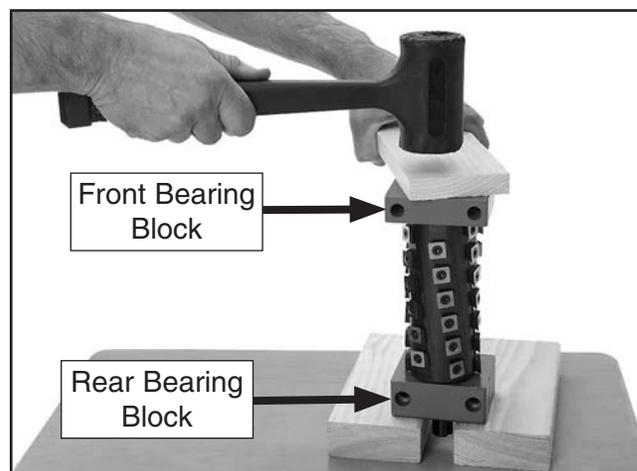

Figure 8. Example of seating rear bearing block onto spiral cutterhead (T27449 not shown).
17. Stand the cutterhead upright between the two 8" 2x4 blocks. Use a piece of scrap wood and a dead blow hammer to seat the cutterhead into the bearing blocks, as shown in **Figure 8**.